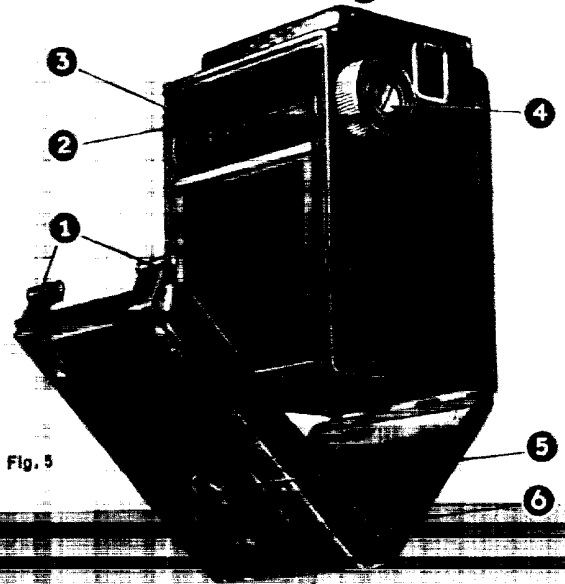

Fig. 5
1. Raise both locking springs 1 (Fig.5) and open the camera back.
2. Pull out the film winding knob 4 (Fig. 5) and turn it slightly to secure it in the out position.
3. Swing the spool holder out of the camera body by turning the holder tang 2 (Fig 5) towards you.